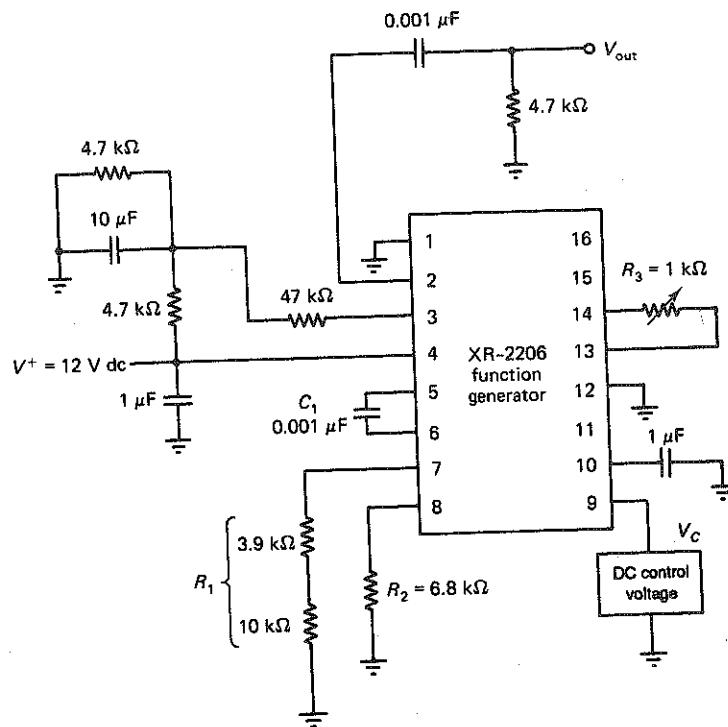

FIGURE 22-3 FSK generation, timing resistor mode.
- In this section the XR-2206 function generator operating in the timing resistor mode is used to generate binary FSK. The schematic diagram in the timing resistor mode is used to show how in Figure 22-3. In the timing resistor mode, the XR-2206 is operated with two sections shown in Figure 22-3. In the timing resistor mode, the XR-2206 is operated in this section is connected to timing pins 7 and 8, respectively. Depending on the voltage level of the input signal on pin 9, either  $R_1$  or  $R_2$  is connected to the internal VCO. If pin 9 is open circuit or connected to a voltage greater than or equal to the internal VCO, R1 is activated. If pin 9 is connected to a voltage less than the switching voltage,  $R_2$  is activated. The switching voltage varies between +1 and +2 volts depending on the specific chip, with 1.4 V being a typical value. Therefore, if a binary digital signal that varies above and below approximately 1.4 V is applied to pin 9, the function generator output signal is keyed between two frequencies (mark and space). In essence, the VCO free-running frequency is switched (as opposed to deviated) between the mark and space frequencies at a rate that is equal to the rate of change of the binary input signal. This method of generating FSK is sometimes called frequency switching.
1. Construct the binary FSK modulator circuit shown in Figure 22-3.
- In this section the XR-2206 function generator operating in the timing resistor mode is used to generate binary FSK. The schematic diagram in the timing resistor mode is used to show how in Figure 22-3. In the timing resistor mode, the XR-2206 is operated with two sections shown in Figure 22-3. In the timing resistor mode, the XR-2206 is operated in this section is connected to timing pins 7 and 8, respectively. Depending on the voltage level of the input signal on pin 9, either  $R_1$  or  $R_2$  is connected to the internal VCO. If pin 9 is open circuit or connected to a voltage greater than or equal to the internal VCO,  $R_1$  is activated. If pin 9 is connected to a voltage less than the switching voltage,  $R_2$  is activated. The switching voltage varies between +1 and +2 volts depending on the specific chip, with 1.4 V being a typical value. Therefore, if a binary digital signal that varies above and below approximately 1.4 V is applied to pin 9, the function generator output signal is keyed between two frequencies (mark and space). In essence, the VCO free-running frequency is switched (as opposed to deviated) between the mark and space frequencies at a rate that is equal to the rate of change of the binary input signal. This method of generating FSK is sometimes called frequency switching.